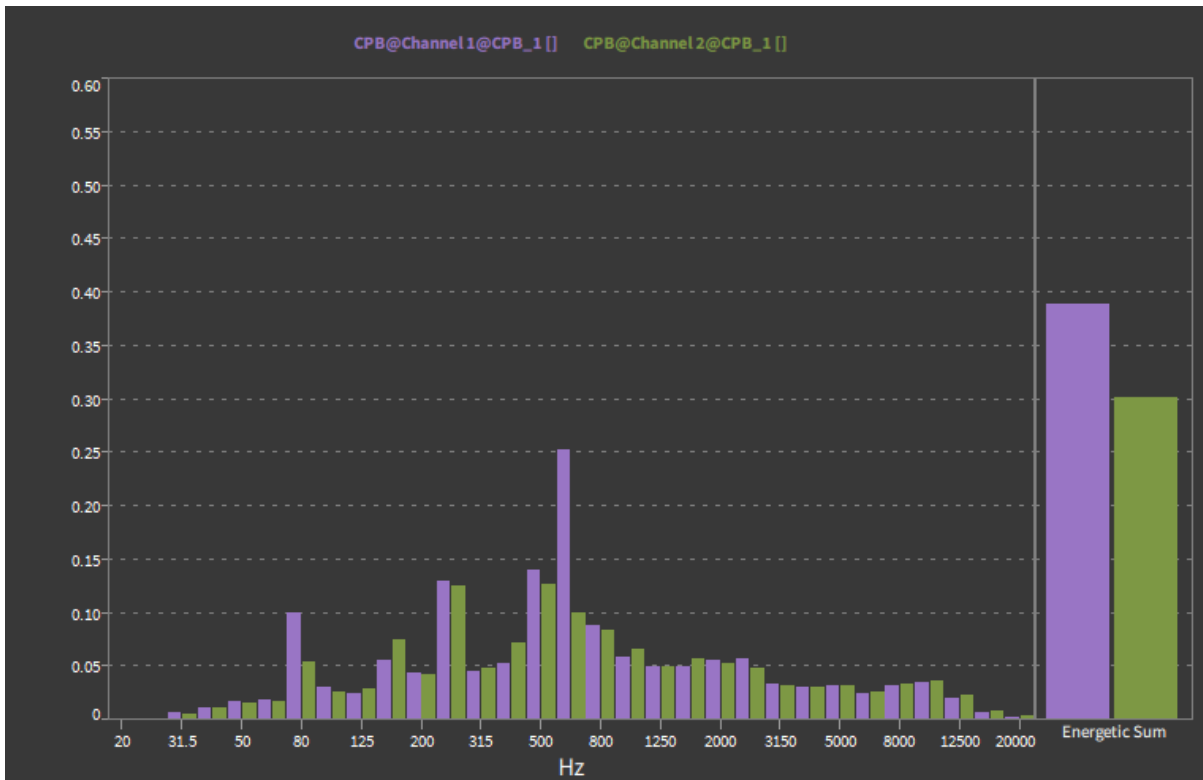

Fig. 8.100: Array Chart with *Total* column included
- Total Computation: It is possible to include a *Total* column (see Fig. 8.100) on the right hand side that display the following value: